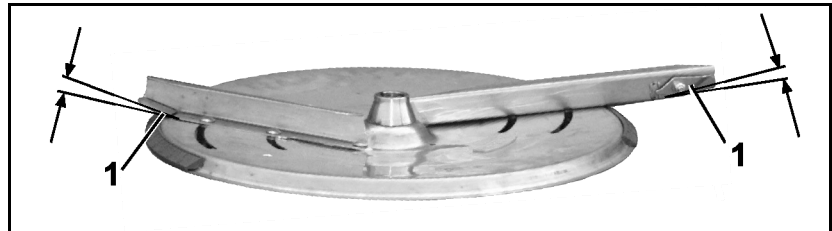

Fig. 49
3. Swivel the swivel blades (Fig. 49/1) of the spreading vanes to the required position for normal fertilising or late top dressing.